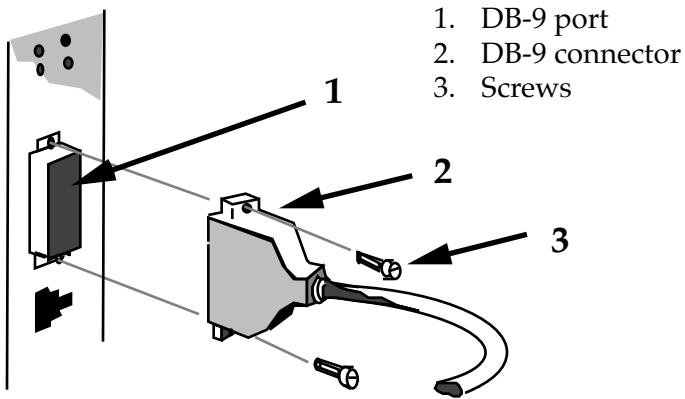

Figure 3-1. Attaching an STP Lobe Link
The T2015 Token-Ring adapter (Figure 3-1) is used here for a connection example. To connect the adapter to a Token-Ring lobe link via the DB-9 port:
- Connect the DB-9 connector (2, Fig. 3-1) on the end of the lobe link to the DB-9 port (1).
- Tighten the screws (3) to secure the connector to the port.